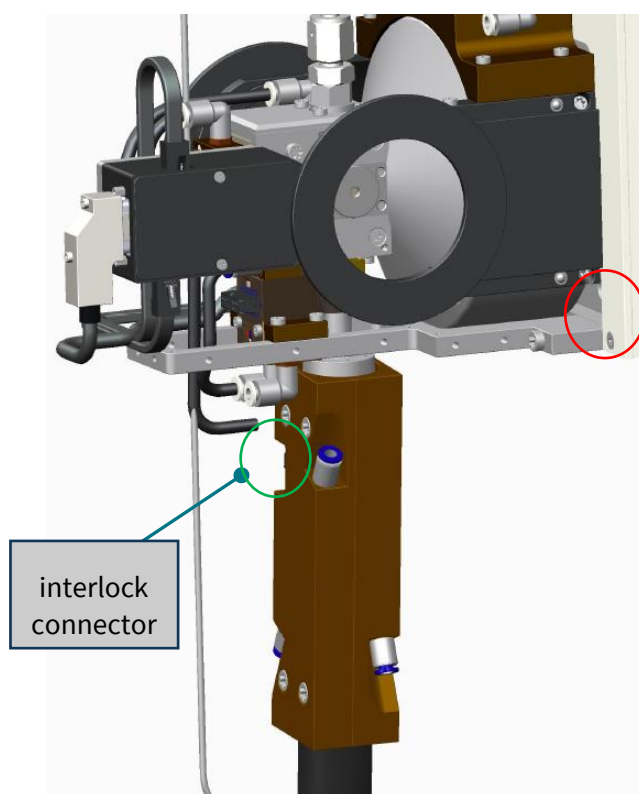

Figure 4-9. Upper cooling block held in position with four M6-screws around the straight section of the flex-hose assembly.
3. Attach the upper cooling block around the straight section of the flex-hose assembly using the four M6-screws and a Torx-30 screwdriver with the interlock connector facing forward. See Figure 4-9.
4. Locate the interlock cable coming out from the opening, circled red in Figure 4-9, and connect it to the interlock connector of the upper cooling block circle in green.
The hose that supplies the turbopump inside the X-ray head with cooling water is routed from the pump box along the flex-hose assembly into the X-ray head through the opening, circled red in Figure 4-9. The return hose is connected to the lens. Both supply and return hoses are plugged and stored inside the pump box during shipping. The labels attached to the hoses indicate which hose connects to the turbopump and to the upper cooling block respectively.
1. Remove the right-hand cover of the X-ray head using a 2 mm Allen wrench to expose the turbopump cooling block. Then route the supply hose through the opening indicated in Figure 4-9. and connect the water hose to the turbopump cooling block and make sure that it is properly connected.